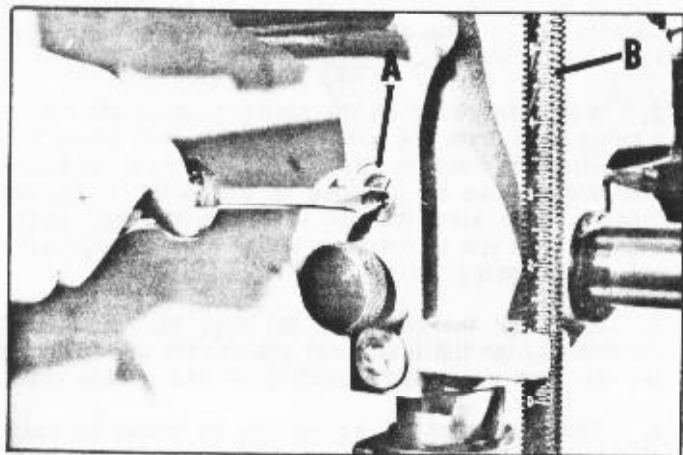

Fig. 11
3. Tighten the two quill adjusting screws (A) Fig. 11 which are located directly underneath the two screws and washers. It is not necessary to tighten these screws too much.
5. When making this adjustment, make sure the stop rod (B) Fig. 11, moves freely up and down.